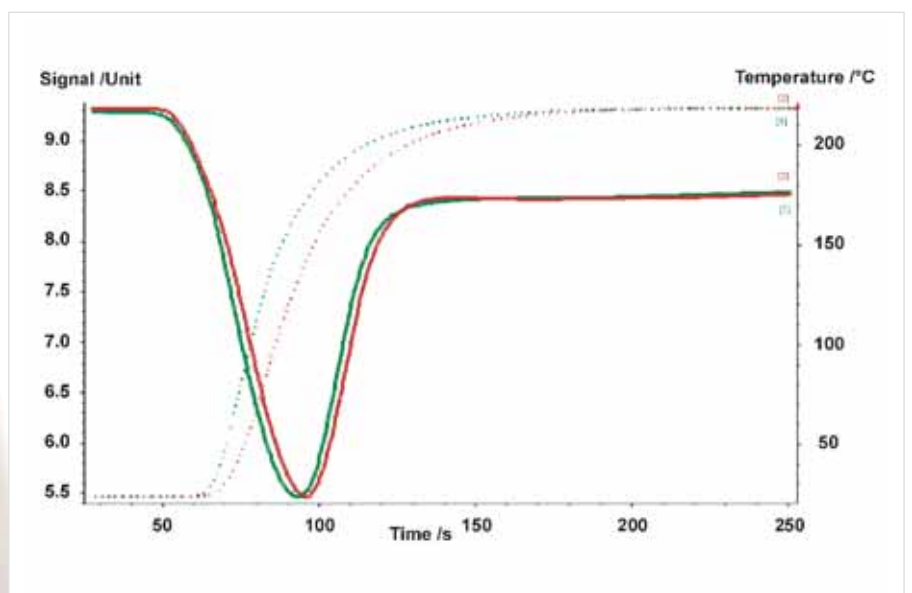

Fig 2. Comparison of two measurements at slightly different heating curves.
2. Comparison of two measurements on the same material with an almost identical temperature ramp (Fig. 2)